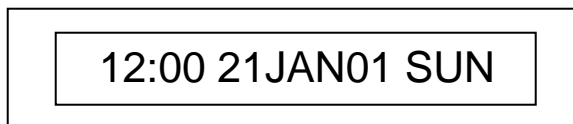

Fig. 8.2 Clock setting
- Step 2: The display is shown in Fig. 8.2 with "hour" flashing.